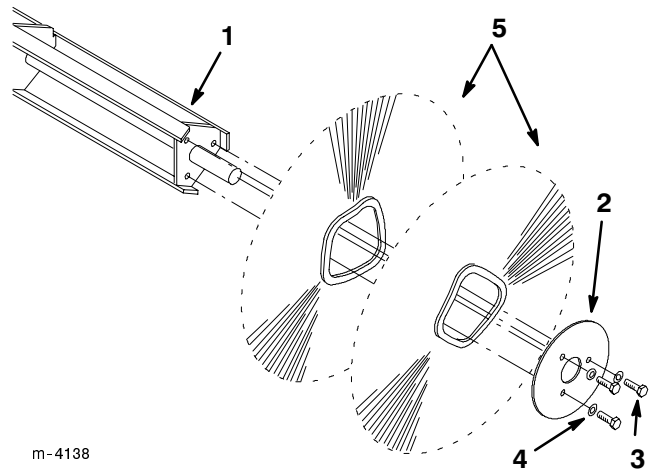

Figure 21
5. Remove the three bolts and washers securing the axle plate on the axle and remove the plate (Fig. 21)
6. Slide the brushes off of the axle assembly (Fig. 21).
7. Slide a new brush onto the axle assembly so the alignment pins of the brush ride over **the bottom** bar of the axle assembly (Fig. 21).
8. Rotate the next brush 180° from side to side and top to bottom and slide it onto the axle assembly so the alignment pins of the brush ride over **top** bar of axle assembly (Fig. 21).